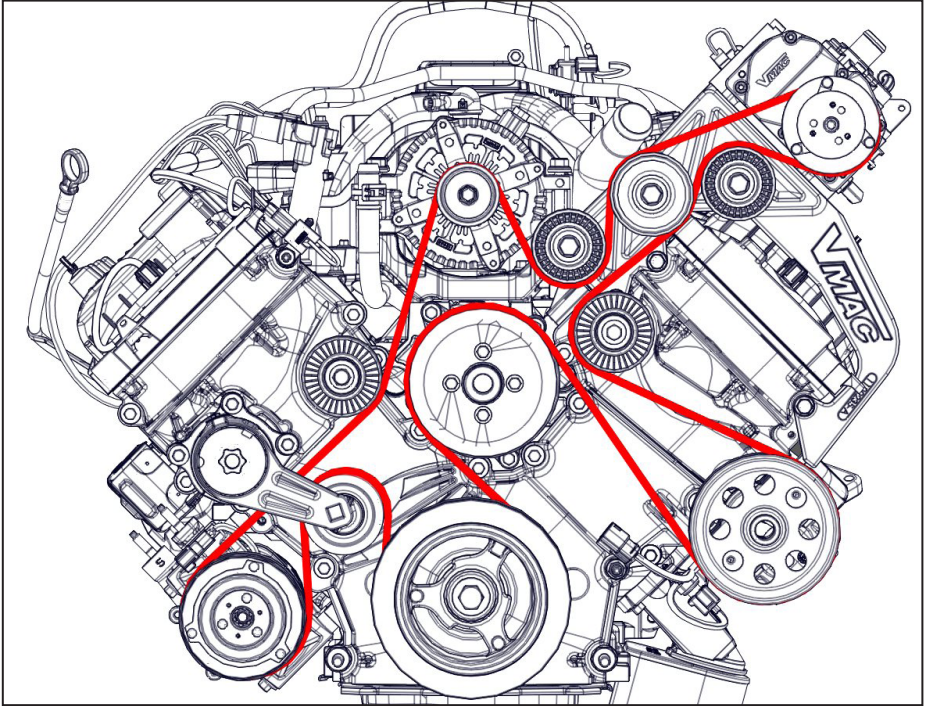

Figure 23 — FEAD belt routing
□ Install and tension the FEAD belt (Figure 23).